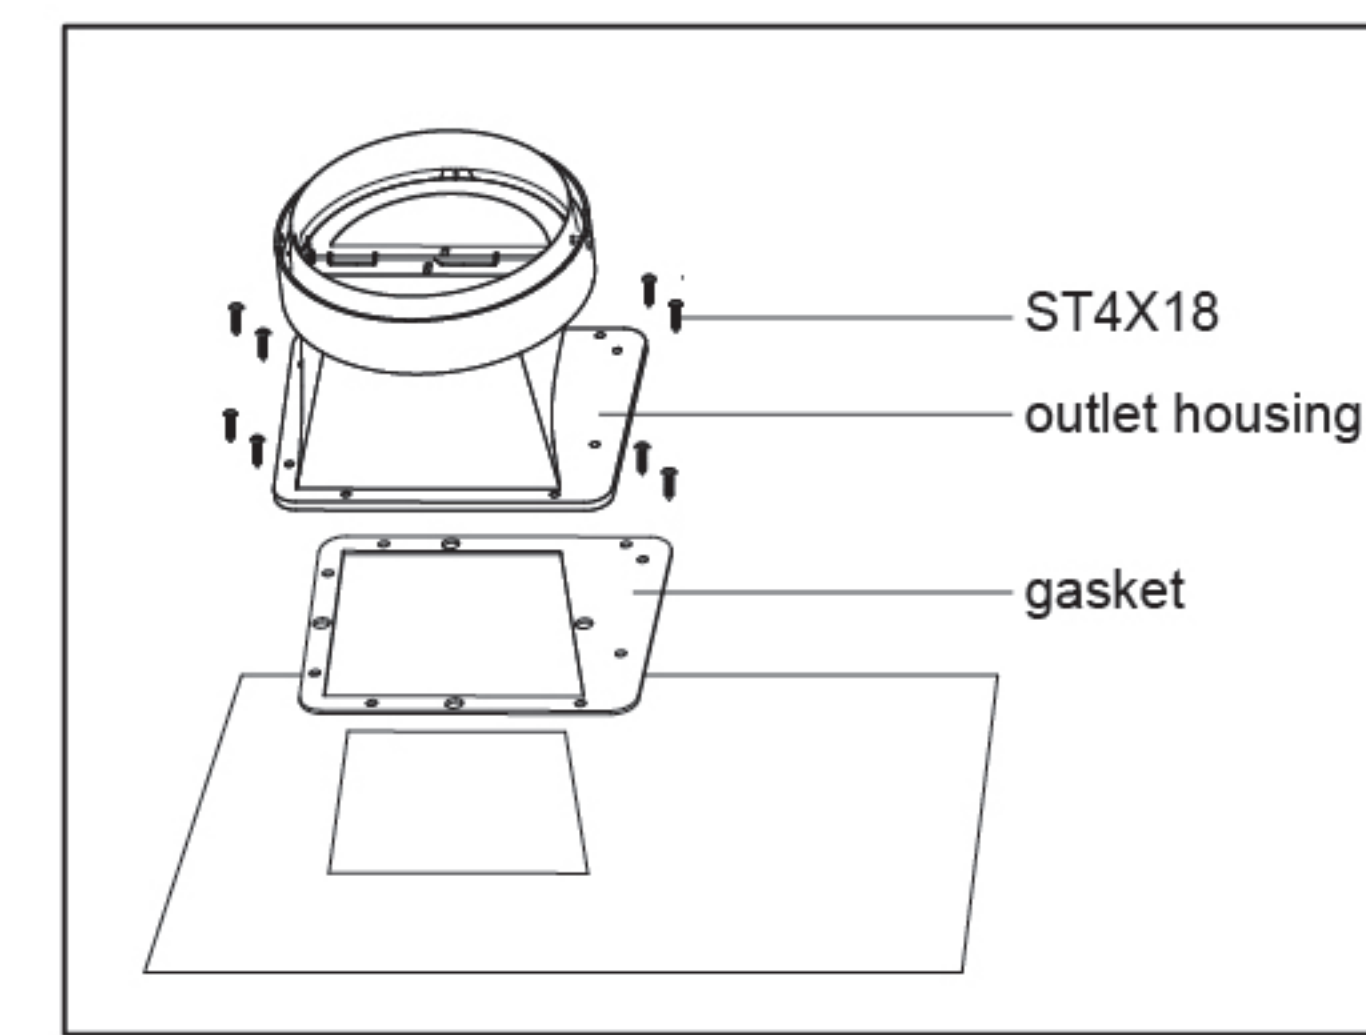

fig9
- Place the outlet housing and the sealing rings at the air outlet of the main body, and use 8 screws (M4×18mm) to fix the outlet housing and the sealing rings. (fig9)